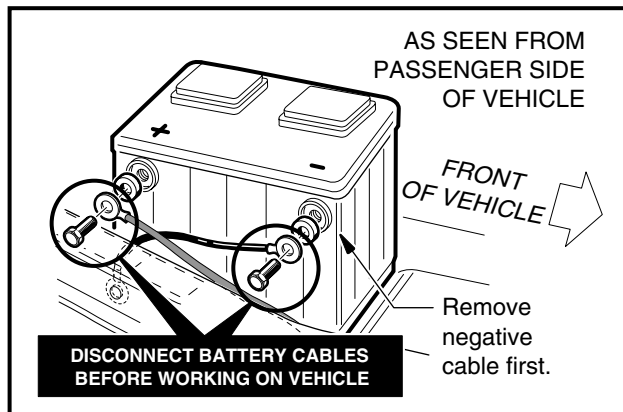

Figure 1-1 Gasoline Vehicle Battery Configuration
- Disconnect battery cables, negative (–) cable first (Figure 1-1, Page 1-3).
- **Disconnect battery cables, negative (–) cable first. See Figure 1-1, Section 1, Page 1-3.**